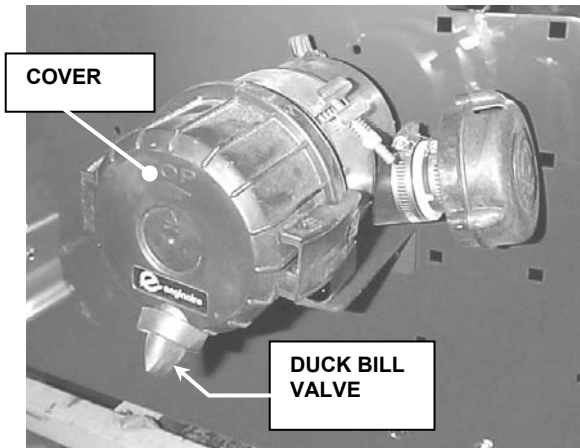

FIGURE 3.3
6. Attach cover to canister. Make sure that both latches are hooked on the flange on the canister, the cover is secure and the duck bill valve is located at the bottom. See Figure 3.3.